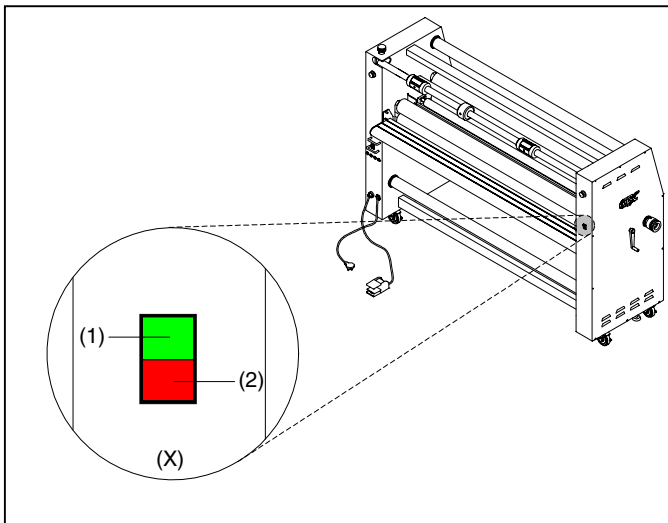

Fig. 18
X. REAR RUN/STOP SWITCH: (Figure 18) Located on the right side of the laminator from the rear operating position. This switch permits run (1) / stop (2) control of the motor from the rear operating position.